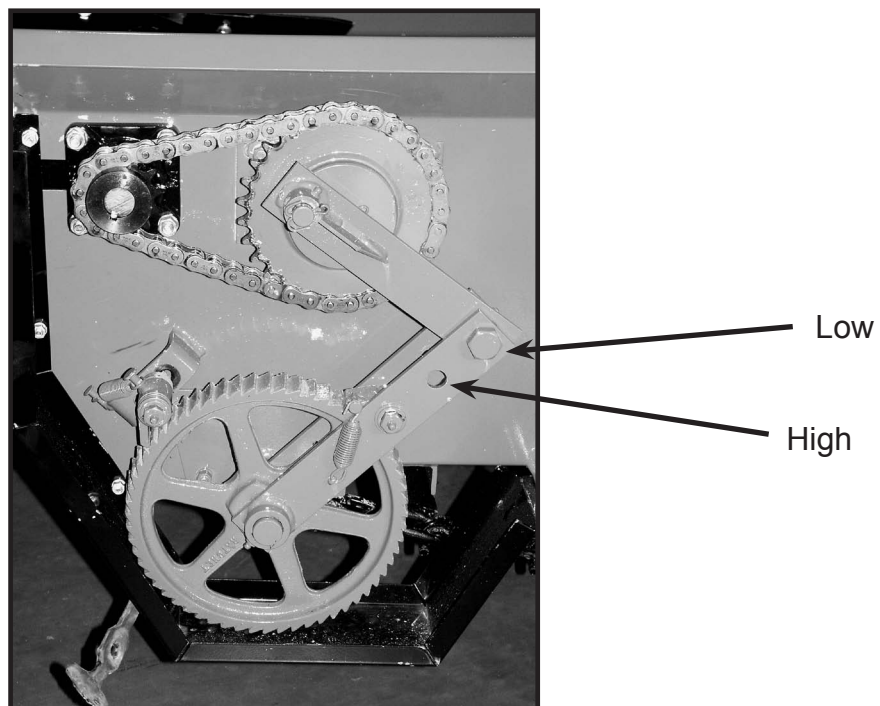

Figure 10-1 (50G, 50P, 80P)
- Check springs to ensure proper pressure is being placed by the dog onto the ratchet wheel (Figure 10-1).